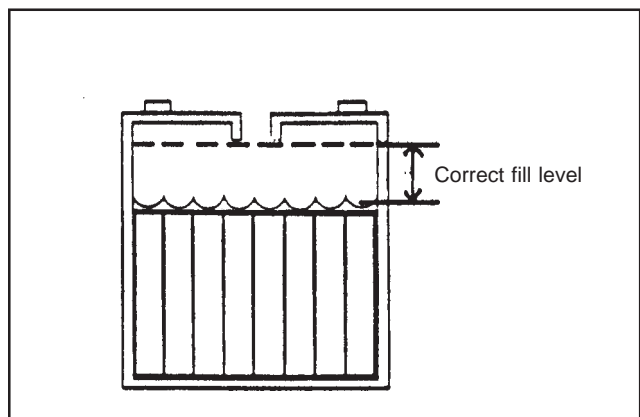

Figure 12
1. Keep the electrolyte at the correct level. The correct level is between 1/4" below the bottom of the tube in each cell and above the tops of the plates. Check the level of the electrolyte each time you charge the batteries. See figure 12.